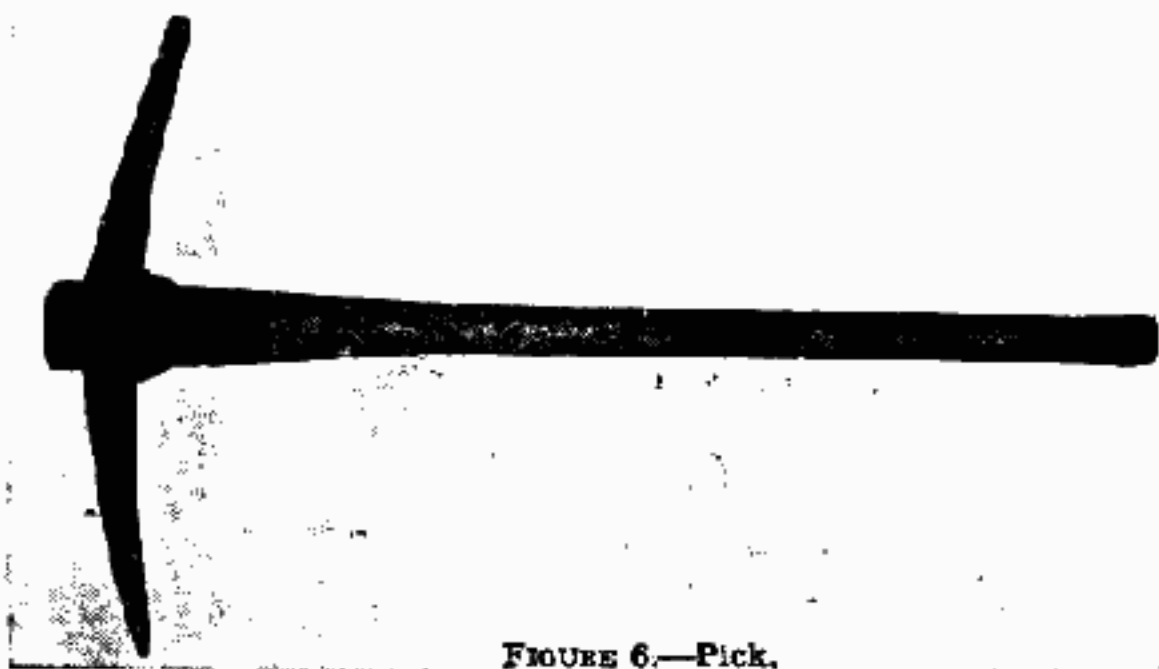

FIGURE 6.—Pick.
d. *Pick and pick mattock* (see fig. 6).—You should be able to use the pick or pick mattock with either the right or left hand leading. The pick is swung in a manner similar to that used in swinging the ax. (See fig. 3.) To use it with the right hand leading, stand with your feet comfortably placed, left hand at the handle end, right hand near the pick head, body bent slightly forward, and arms hanging naturally. Carry the pick head behind and above your right shoulder without changing the position of your hands. Swing the pick head forward, allowing the handle to slide through your right hand until your hands meet, and continue the stroke downward. Keep your eye on the point to be struck.